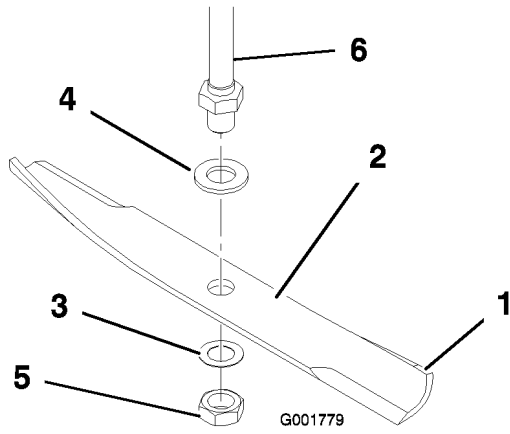

Figure 38
Hold the blade end using a rag or thickly-padded glove. Remove the blade bolt, curved washer, blade stiffener, and blade from the spindle shaft (Figure 38).
- Install the large flat washer and the blade onto the spindle shaft (Figure 38).
- Install the small flat washer, and the blade nut (Figure 38). Torque the blade nut to 80-100 ft-lb (108-135 N·m).